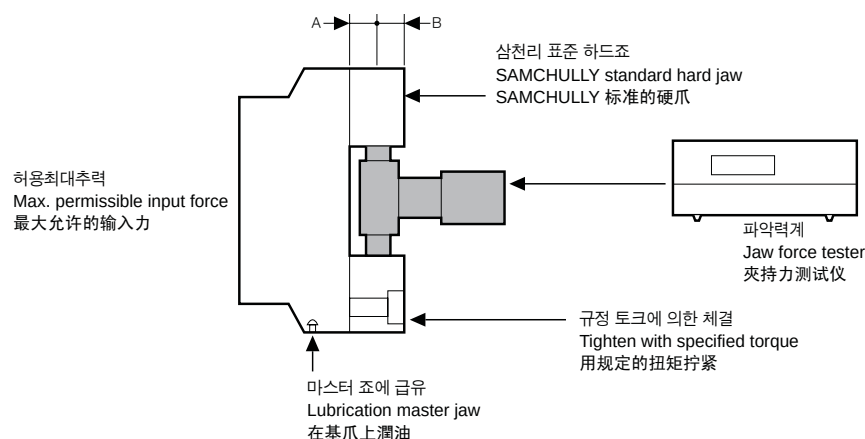

Fig.10
- (1) With SAMCHULLY standard soft top jaw used, the values of grip force are measured with jaw force tester at mid point of soft jaw height(from chuck surface to upper soft jaw face) as shown in Fig 10.
- (2) SAMCHULLY chuck grease is lubrication for obtaining the maximum efficiency of the chuck.
- (3) Mounting bolts of top jaw are tightened with specified torque, (Page16)
- (4) The maximum permissible input force for the wedge plunger is shown in the above table.
- (5) For hydraulic oil supply, the variable capacity type pump which has discharge capacity of 20 liters or more is used. Oil pressure is set with pump's own control devise or a reduction valve which is provided separately from the system.